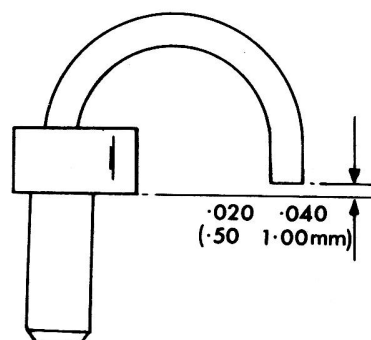

Fig.3.12. Checking the position of the injector tube
If checks show that choke levers, ignition timing, carburettor tuning etc., are correct it is advised that the accelerator pump discharge injector tube (item 26 Fig.3.9) be checked for correct positioning. Check its position by placing a straight-edge across the lower face of the mounting block and measuring the gap between the end of the tube and the straight-edge as shown in Fig.3.12. The correct gap should be 0.020" to 0.040" (0.50 to 1.00 mm). If this dimension is not correct, a replacement assembly should be fitted as bending of the injector tube may loosen the tube in the mounting block. Ensure that the gasket is refitted under the base of the assembly and that the locating screw is tight.